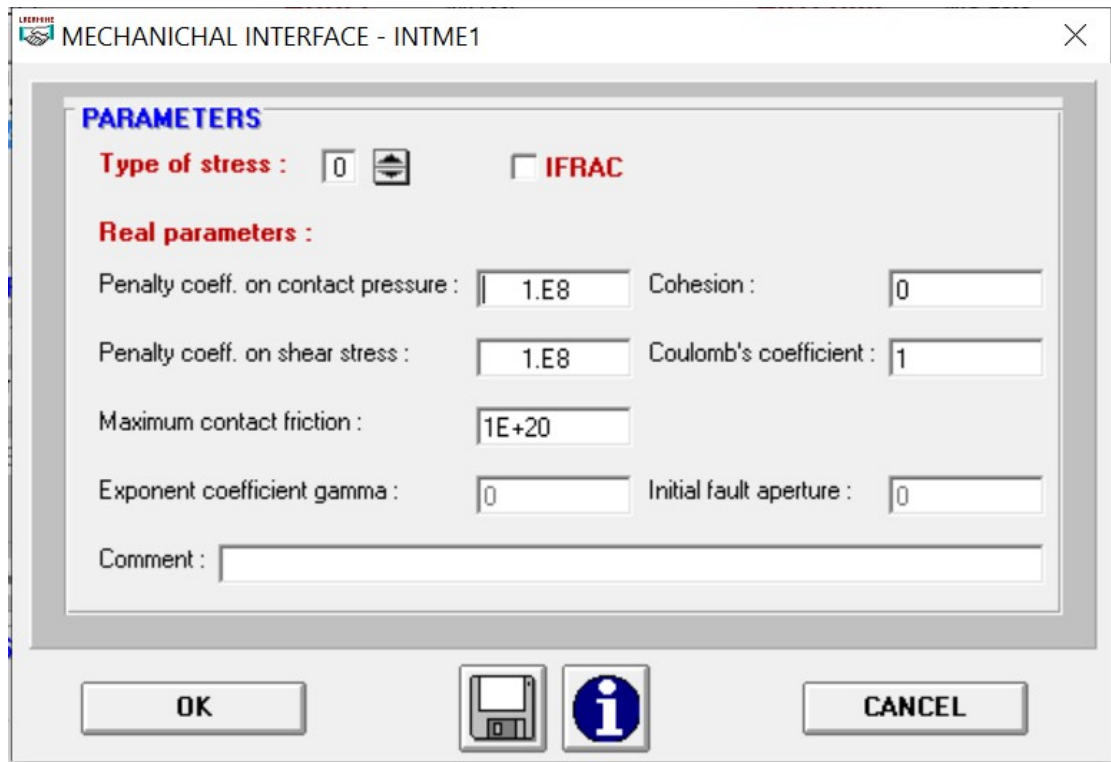

Figure 6.6 Parameters used for the interface element.
2. Click **New Law**, now the Law Number is 2 which is for the interface element boundary. Select **Interface** → **INTME** → **Parameter**, set parameters as shown in Fig. 6.6, then click OK.